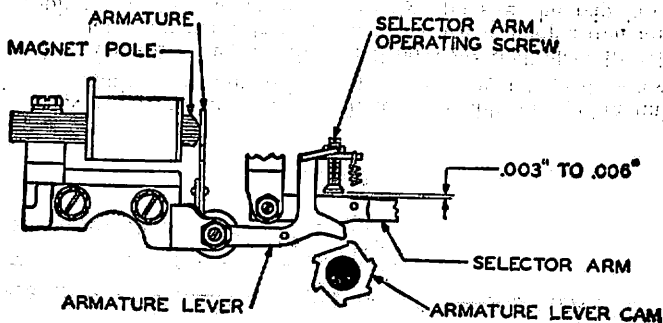

Fig. 10
4.20 **Selector arm operating screw:** Selector arm shall clear its operating screw by min. .003", max. .006" as in Fig. 10 when magnet is energized, selector arm is in its operated (marking) position and armature lever is between peaks of its cam.